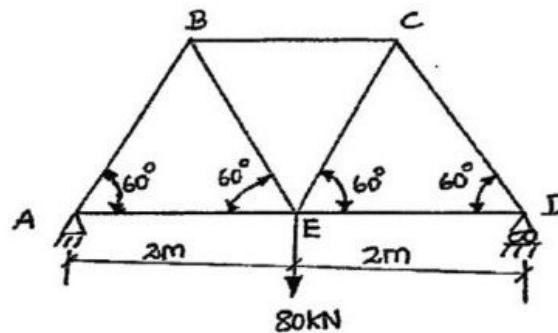

Fig. Q16 (a)
16. (a) Determine the vertical displacement of joint E of truss shown in Fig. Q16 (a) due to given loading and due to member BE and CE being 10 mm too long. Given, for all members cross sectional area = 1000 mm^2 , Young's modulus = 200 kN/mm^2 .